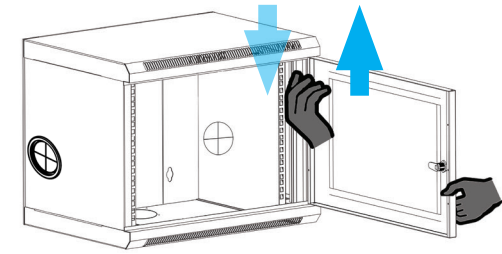

Figure 6
6. With the **Bottom Pin** partially installed, **Pull** the **Top Pin Handle Down** and swing the **Top Corner** of the **Door** toward the **Upper Hinge Hole**. **Align** the **Retracted Top Pin** with the **Upper Hinge Hole** and **Release** the **Pin Handle**, ensuring the **Pin** is **Fully Extended** into the **Upper Hinge Hole**. (Figure 6)